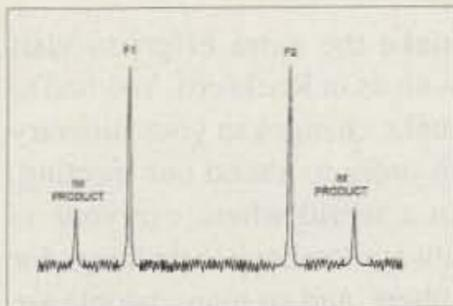

Fig. 3. Mixed signals in a nonlinear circuit produce IM products.
The main reason for using the preselector is shown in Figs. 3 and 4. Receivers don't respond in a linear manner to high level signals (of which bands are full). Indeed, the strong signal doesn't even have to be in a ham band to cause problems. Assume in Fig. 3 that signal F1 is the signal you want to copy, while signal F2 is a strong interfering signal on an off-channel frequency. When the two mix in a nonlinear circuit (such as a receiver front end that's overdriven), a number of spurious intermodulation (IM) products are created. These will be at frequencies described by $mF1$
Of these, the difference products are the most bothersome because they fall in the same band as the desired signals. These are shown as "IM products" in Figs. 3 and 4.